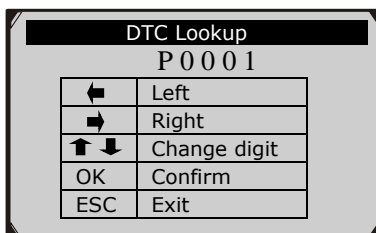

Figure 3.2
- 2) From **DTC Lookup** screen, use the **LEFT/RIGHT** button to move to the desired character, use the **UP/DOWN** button to change selected digit/character and press the **OK** button to confirm. (Figure 3.2)